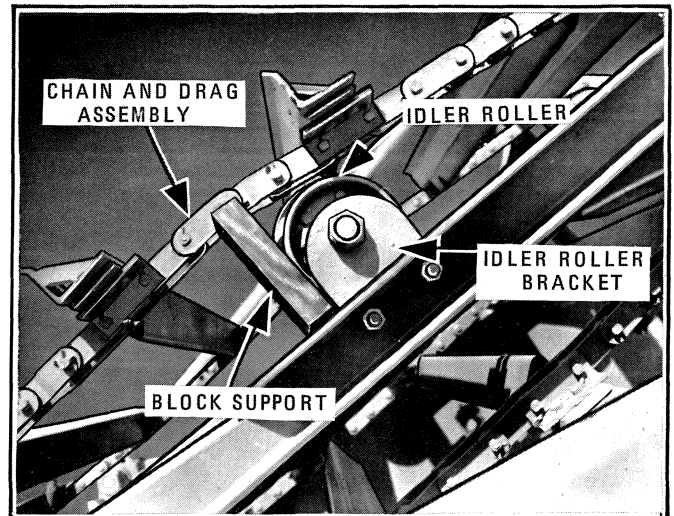

Fig. 1—Supporting Chain & Drag Assembly
1. Lift the chain away from the idler roller using a method similar to that illustrated in Fig. 1.